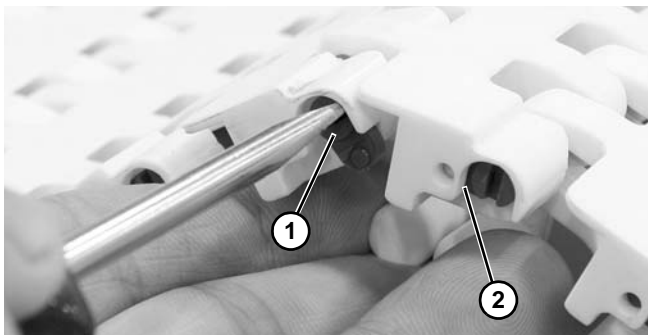

Figure 109
11. Insert a flat blade screwdriver into the slot on the rod head (**Figure 109, item 1**). Rotate rod head clockwise into the locked position (**Figure 109, item 2**).